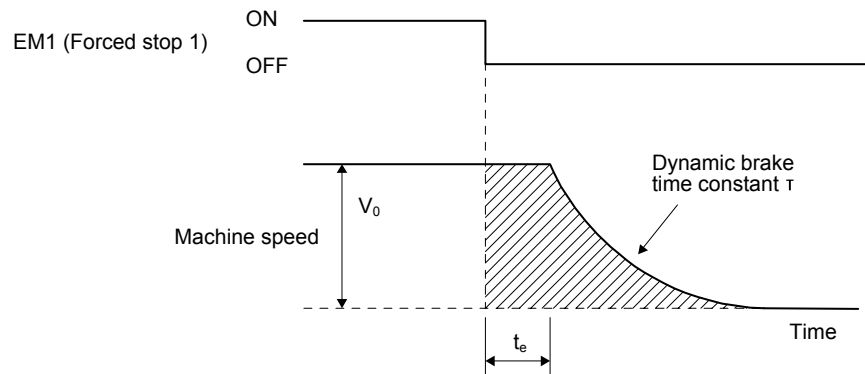

Fig. 8.3 Dynamic brake operation diagram
Fig. 8.3 shows the pattern in which the servo motor comes to a stop when the dynamic brake is operated. Use equation 8.2 to calculate an approximate coasting distance to a stop. The dynamic brake time constant  $\tau$  varies with the servo motor and machine operation speeds. (Refer to (2) of this section.) A working part generally has a friction force. Therefore, actual coasting distance will be shorter than a maximum coasting distance calculated with the following equation.